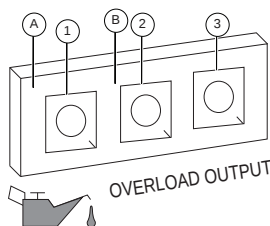

Figure 3-3. Shutdown Fault
IMPORTANT NOTE: See Figure 3-3. Do not overload generator or individual panel receptacles. If an overload occurs, the overload LED (A) will illuminate and AC output ceases. To correct, see Generator Status Lights. Read Know Generator Limits carefully.